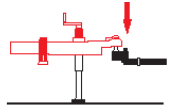

Figure 28
2. Lower the trailer coupler until it is resting on the hitch ball. If the trailer coupler won't sit properly, adjust the position of your tow vehicle. (Figure 28)